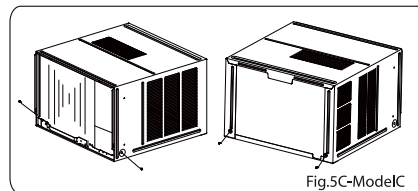

Fig. 5C-Model C
1. Remove four screws located on both sides and the back of the cabinet as shown in Fig. 5C.